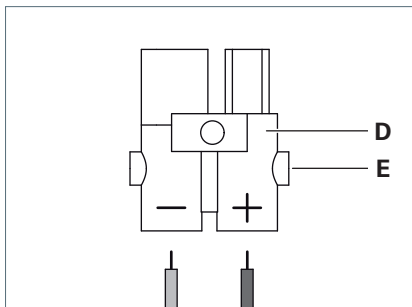

Fig. 4: Pin assignment.
- ▶ Unscrew both screws **E** of the plug **D**, see Fig. 4.